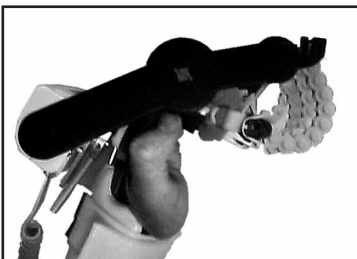

Figure 5
5. In flexion the device should look like this. The axis is on the PIP and the fingers are flexed at the DIP and PIP only. Make sure you adjust the flexion ROM on the controller to match this limited arc of motion (figure 5).